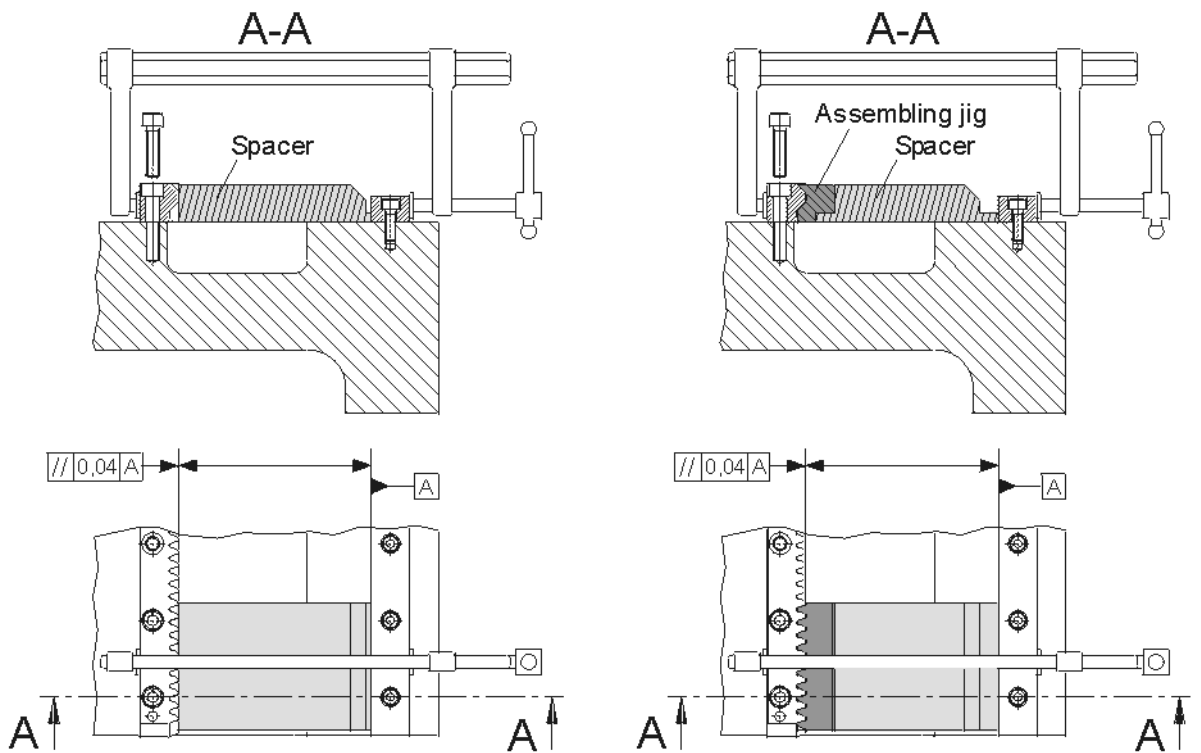

Fig. 6.3
The parallelism between 20 μm and 40 μm to the carriage guide is achieved by a spacer (see Fig. 6.3) during assembly (the parallelism should be ideally within the prescribed parallelism tolerance of the manufacturer of rail guides).
➔ Make a spacer customised to your machine (possible design see Fig. 6.3).
- ☺ For more precise positioning clamp an assembling jig with spacer (see Fig. 6.3 in Chapter 6.1.2) between rack and guide rail.